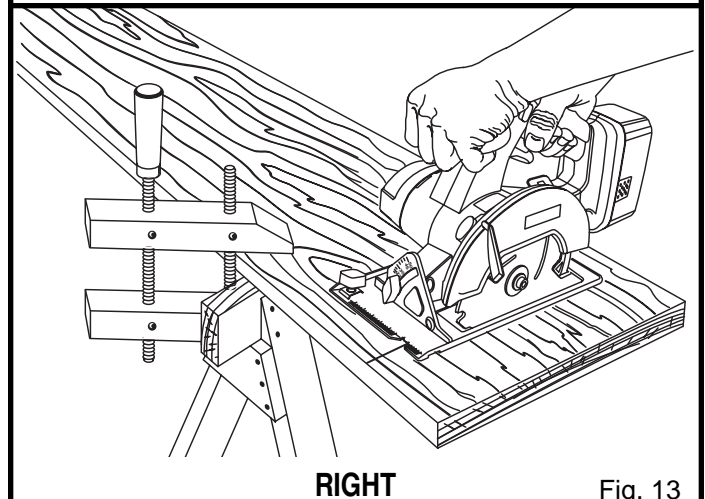

Fig. 13
*See Figure 13.*
Before beginning a cut, draw a guideline along the desired line of cut. Then place front edge of base on that part of your workpiece that is solidly supported. See Figure 13.